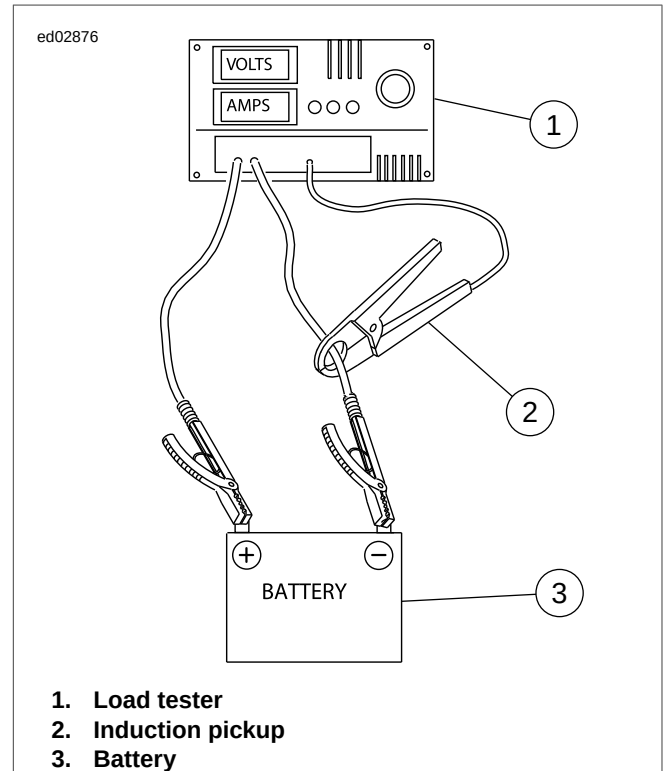

Figure 1-20. Load Test Battery
4. See Figure 1-20. Connect tester leads to battery posts and place induction pickup over negative (black) cable.